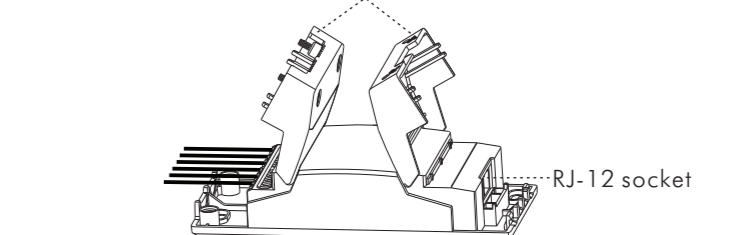

FIG.14
3.4.4 Put two spring clips of detector head into the drilled hole, then push detector into ceiling (See FIG.14).